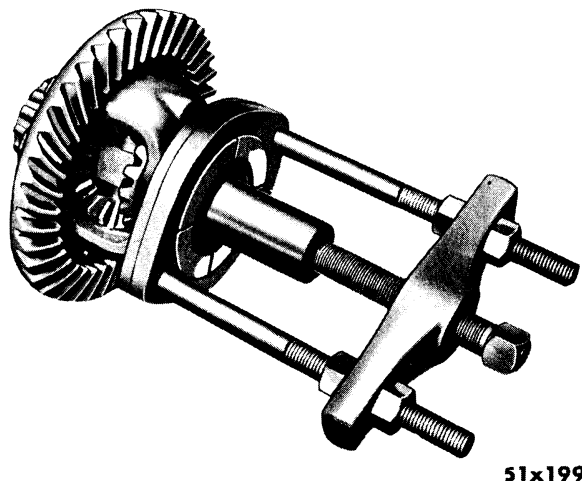
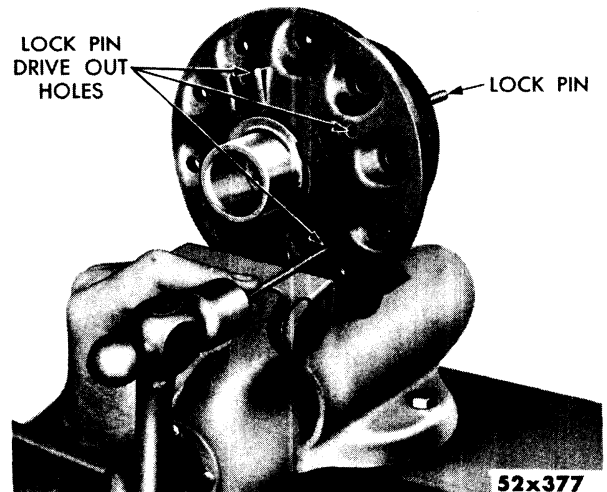

Fig. 17—Removing Differential Side Carrier Bearings
Fig. 20—Removing the Differential Pinion Shaft Lock Pins
- (4) Inspect bolt holes for wear or out-of-round; if worn or out-of-round, replace case.
- (5) Mount differential case assembly in a heavy vise, using copper jaws.
- (6) Install Tool C-293-C on bearings, as shown in Figure 17, and remove bearings from differential case.
- (5) Remove the differential case from the carrier.
- (6) Fit Number 18 plates behind bearings and pull off the differential bearings, using Tool C-293, as shown in Figure 17. Remove the differential bearing spacers.
- (7) Remove the differential cap to case bolts, and tap the cap lightly with a soft hammer to remove.
- (8) Remove the three differential pinion shaft lock pins by driving them out of the case with a hammer and punch, as shown in Figure 20.
- (9) Drive the long pinion shaft out of the differential case, using a brass drift and hammer. **NOTE: This shaft can be identified as having only 1 retaining pin.**
- (10) Lift out the rear axle drive shaft thrust block.
- (11) Drive the short pinion shafts out of the case, and lift out the pinion shaft block. **NOTE: The short pinion shaft sides of the block are punch marked for identification.**
- (12) Lift out the differential pinion gears, slide gears and thrust washers.